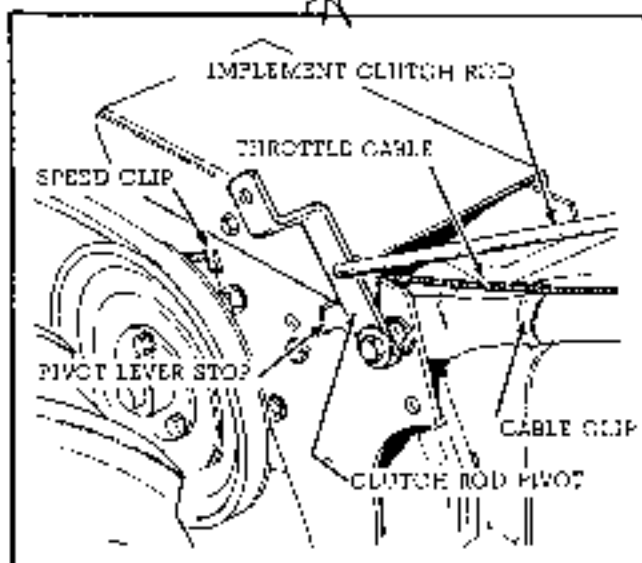
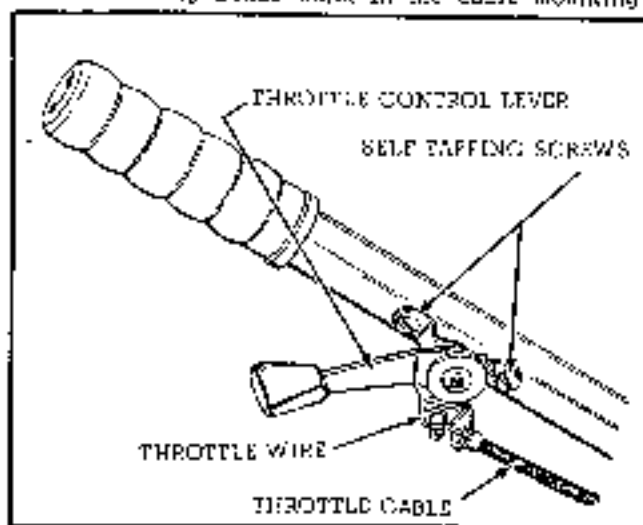

Fig. 2
Fig. 5
2. It will be noted that the tractor handle assembly has 3 rods and levers attached to it. These control the tractor clutch, implement clutch, and transmission shifting. The lever on the left hand side controls the implement clutch rod which is to be attached to the clutch rod pivot lever as shown in figure 2. Remove the handle mounting bolt and install the following parts in this sequence; 5 flat washers, pivot lever stop, bushing, pivot lever, 1 flat washer. Retighten the hex head capscrew and check to see that the end of the clutch rod does not hit on the side of the rear frame cover.
3. The speed of the engine is regulated by the throttle control lever. This control lever is already assembled to the throttle cable and for shipment is coiled up and fastened to the engine. Uncoil the throttle cable and pass the control lever under the cover of the rear frame. The cable is to be fastened to the rear frame at this point with a speed clip as shown in figure 2. Continue up the length of the left hand side of the handle assembly and clip the cable in place with cable clips. Fasten the throttle control lever to the left hand handle, using 2 self tapping screws as shown in figure 5. When properly mounted, the throttle will open when the lever is raised, and close when the lever is pushed down. Be certain that the throttle wire is held securely by the locking screw in the throttle lever, and that no kinks or sharp bends exist in the cable mounting.